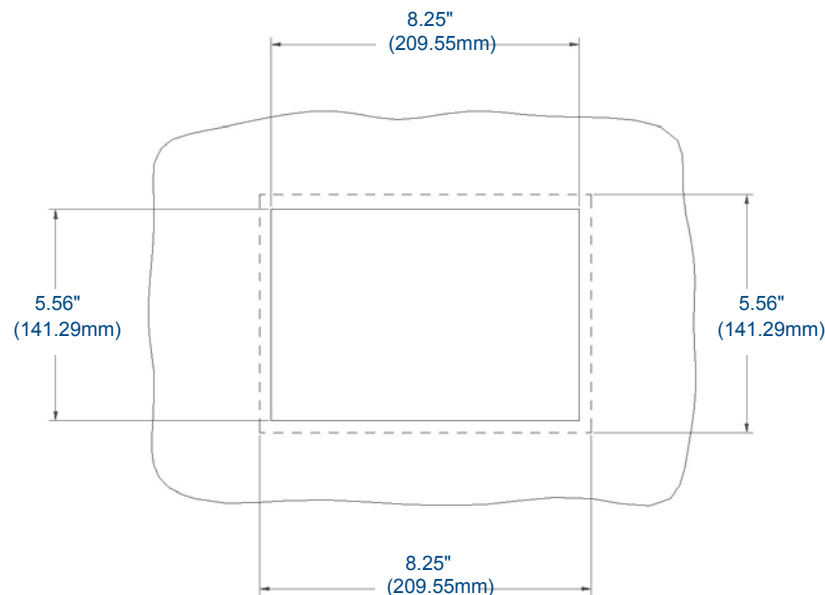

FIG. 10 Recommended cutout for plastic back box
1. Cut a hole into the wall or surface intended to hold the box. The outer lip of the box is sized 8.69 inches (220.66mm) long and 6.0 inches (152.4mm) high, so the hole should be at least 1/4" (6.4mm) smaller in each dimension (FIG. 10).